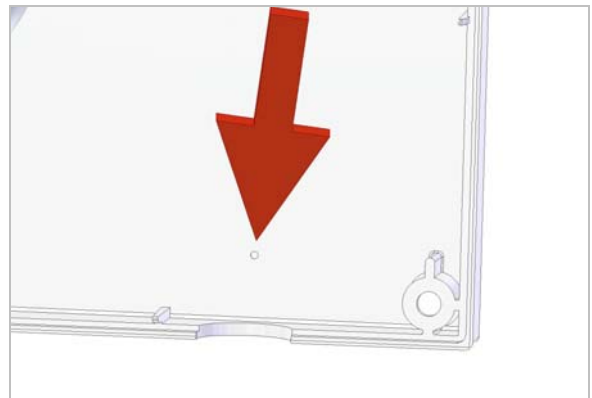

Figure 18: Cut 32 mm Hole for 22 mm Pipe (Rear of Unit)
5. Cut a 32 mm hole (or nearest standard hole saw size) in rear cover for the 22 mm pipe to exit using the dimple in the panel as a guide (see *Figure 18*).